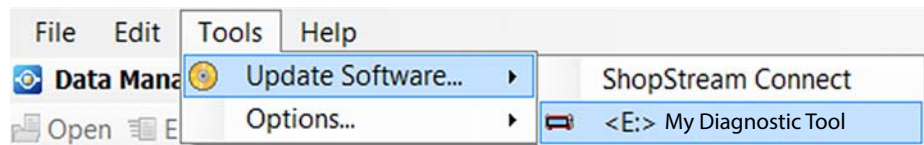

Figure 15-11
1. Select **Tools > Update Software >** (diagnostic tool type - e.g. ETHOS Edge, MODIS Edge, SOLUS Edge, etc.) from the Menu bar (Figure 15-11).